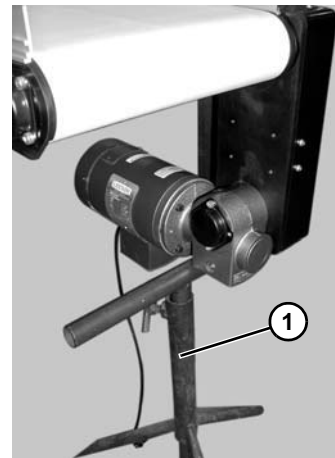

Figure 78
- a. Use a temporary support (**Figure 78, item 1**) to support Gearmotor.